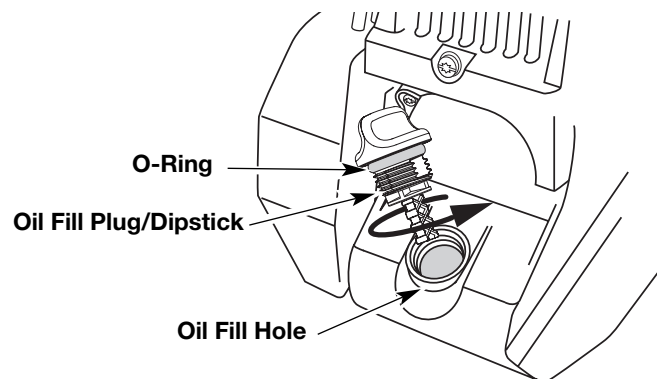

Fig. 53
6. If the level is low, add a small amount of oil to the oil fill hole and recheck (Fig. 53). Repeat this procedure until the oil level reaches the top of the dipstick.
**NOTE:** Make sure the O-ring is in place on the oil fill plug/dipstick when checking and changing the oil (Fig. 53).